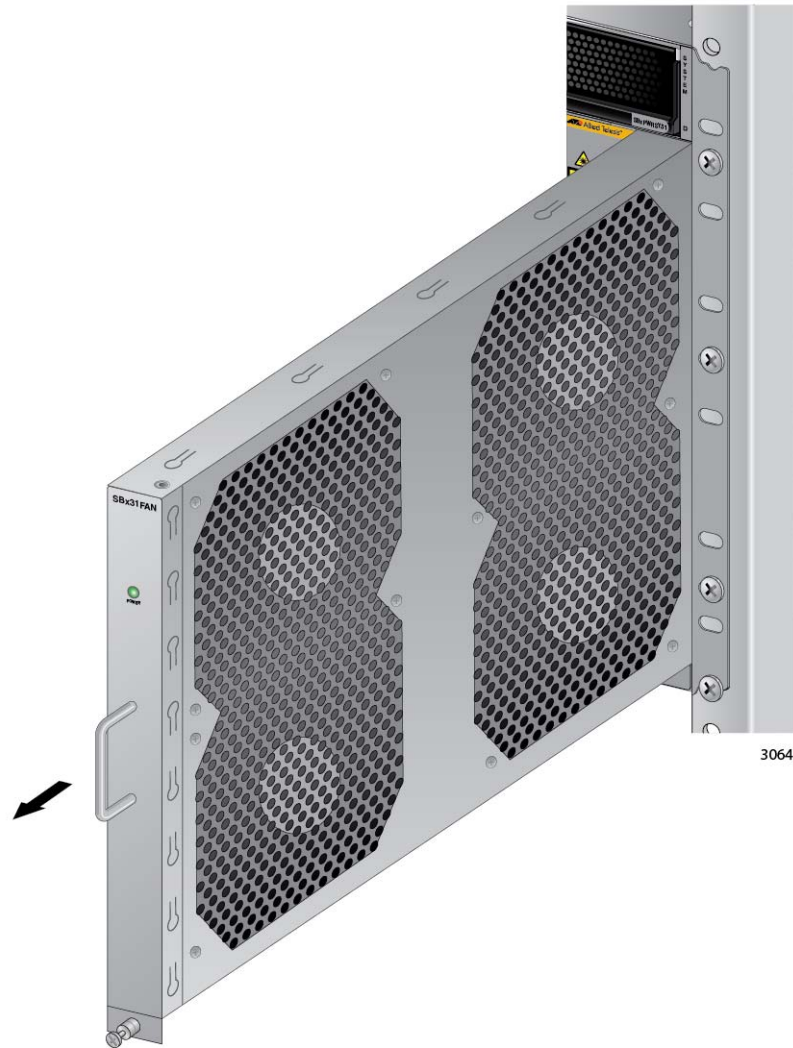

Figure 164. Removing the AT-SBxFAN12 Fan Module from the Chassis
6. After the fans have stopped, slide the module from the chassis. Refer to Figure 164 on page 258.